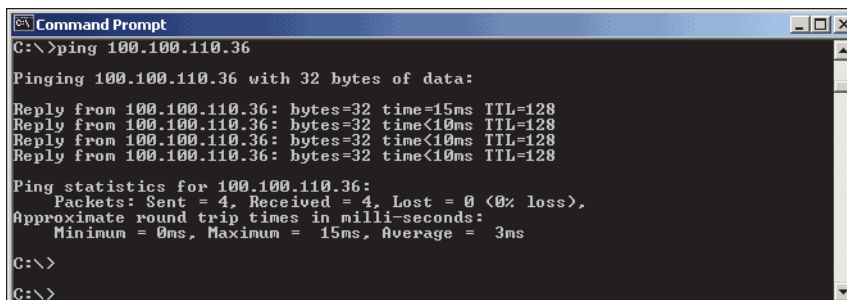

Figure 12.2. Successful Ping test
- To test the network connection, enter **Ping** followed by the IP address of the instrument to be tested. The Ping utility makes four data transmissions to the specified IP address and reports the reply if successful (Figure 12.2). If the data transmission fails, the PING utility reports “Request timed out.”